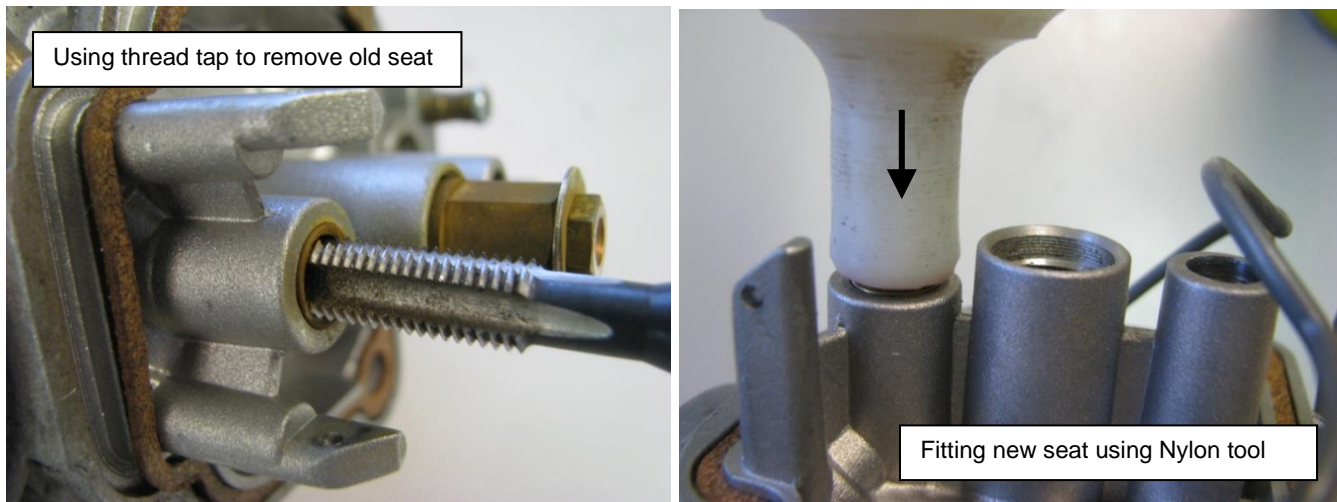

Figure 115 – Fitting New Float Needle Seat
- The float bowl needle seat must be checked. 3300 engines use a 2.4mm diameter, specially shaped orifice in this part while the 2200 engine uses 2.0mm – though the 2.4mm seat is also acceptable for 2200 applications. Figure 30 shows the tools needed to change the seat which is located in the carburettor body above the float needle. As noted at Figure 30, if the seat is to be changed a tap is used to remove the old part and a special nylon drift used to install the new. More details of this process are included in Section Figure 115.